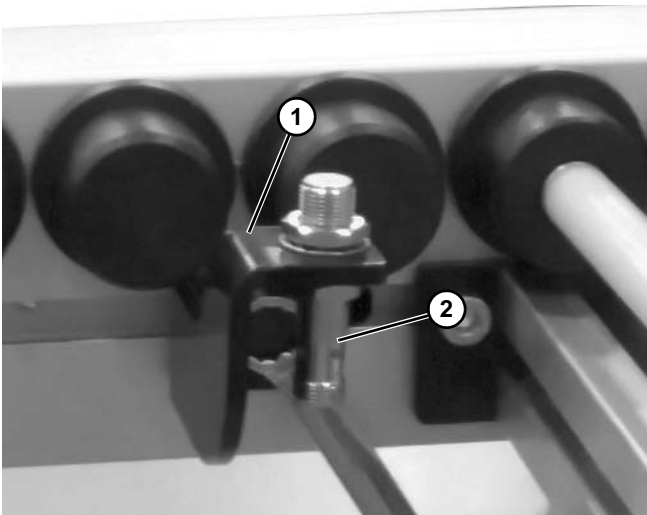

Figure 63
Optional bottom mount (Figure 63, item 1) sensor brackets can be used to mount a 12 mm barrel proximity sensor (Figure 63, item 2).